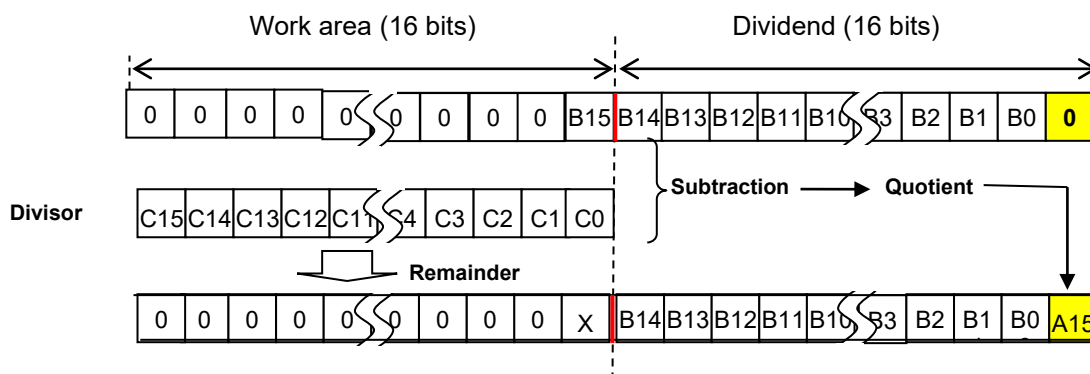

Figure 3.4 Execution of Subtraction
- (3) Whether a divisor is able to be subtracted from the work area is confirmed. If subtraction is possible, the quotient of the time becomes 1 and becomes 0 if impossible. This quotient is stored in LSB of a dividend (domain). The remainder at the time of being over is stored in work area. (Refer to Figure 3.4)
The notes in this calculation are the column numbers of a quotient. After shifting a bit to the left, it subtracts and the quotient is certainly stored in LSB of a dividend area each time. And when both (2) and (3) are performed, the subtraction processing for 1 bit had completed. In the case of Figure 3.4, the quotient bit A15 stored in LSB of a dividend has bit weights of the 15th power of 2. Then, it is stored in the right (lower side) of A15 in order of lighter bit weights by repeating (2) and (3).